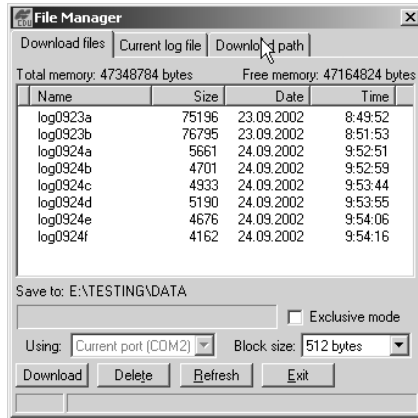

Figure 4-4. Find Files to Download
- Click the **Download path** tab on the File Manager dialog box (Figure 4-4).